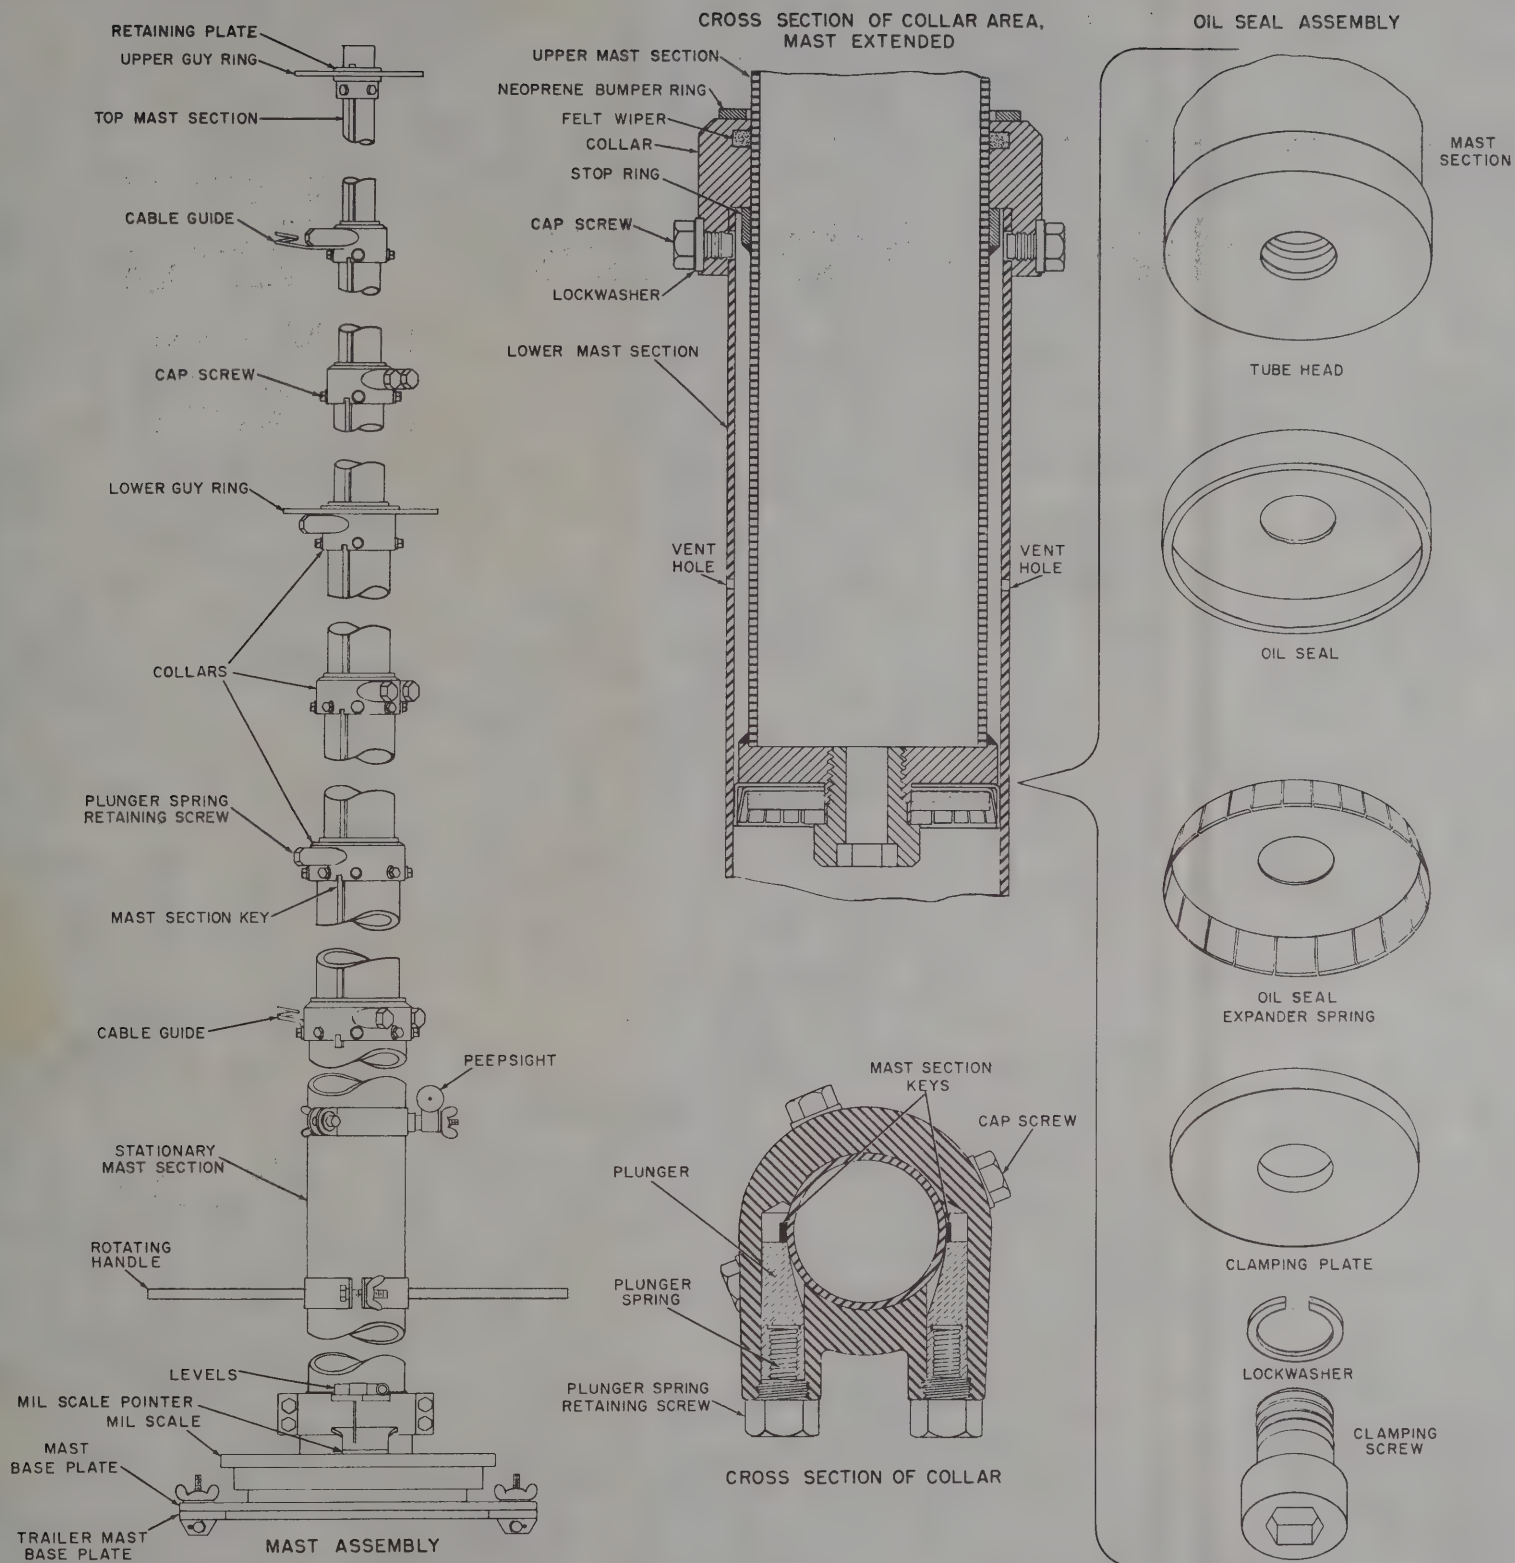
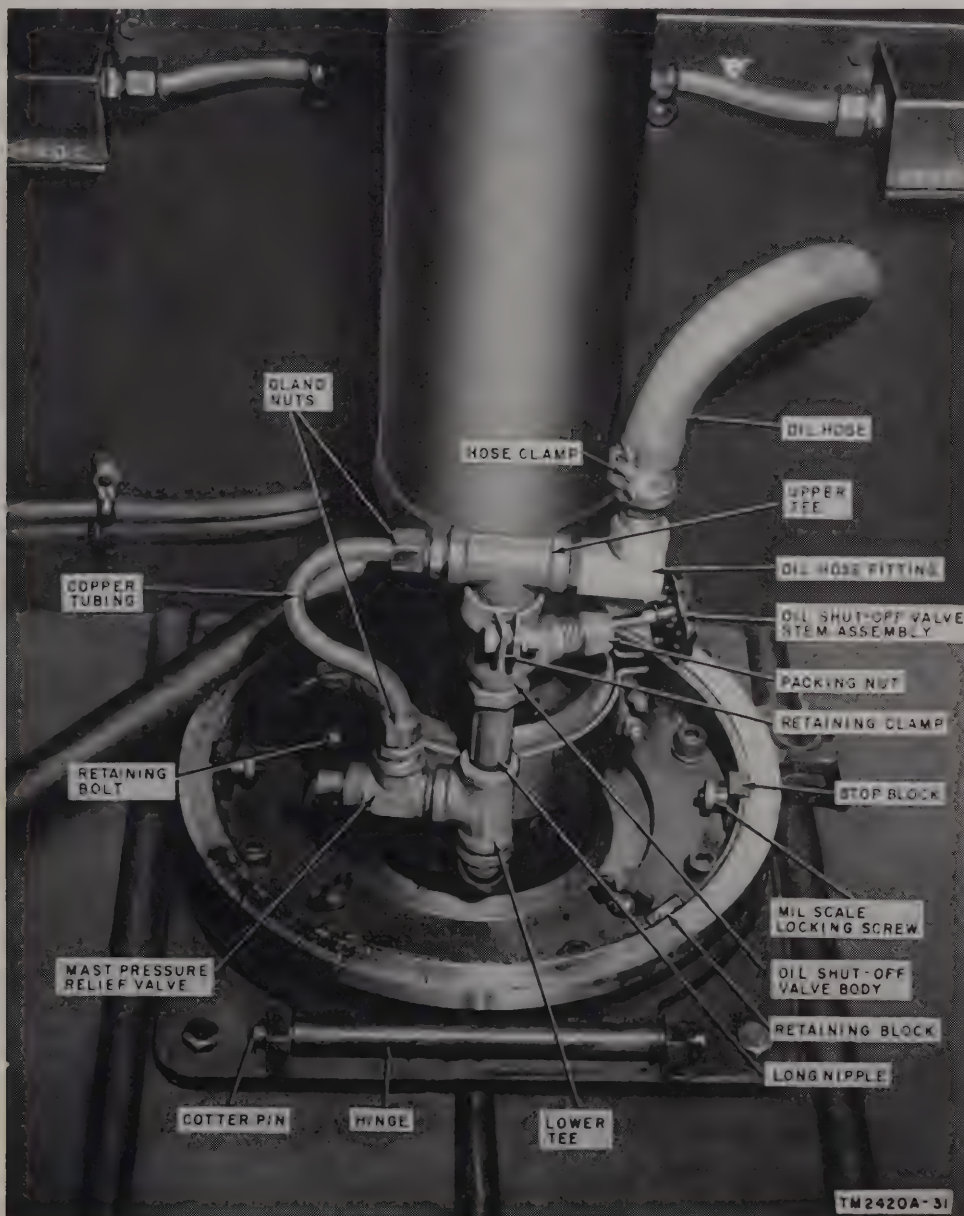

Figure 20. Mast AB-329A/G, sectional view.
Figure 22. Mast base, mast pressure relief valve, and oil shutoff valve (blue).
49. Disassembly and Reassembly of Mast for Organizational Maintenance (fig. 20)
b. Lower the mast to the A-frame (par. 32*c* (3)), and check to see that the trailer wheel brakes are set.
- (1) Remove the wingnut and take the peep-sight off the stationary section of the mast (fig. 20).
- (2) Remove the wingnut and take the rotating handle off the stationary section of the mast.
- (3) Remove the four retaining bolts (fig. 22) and take the mil scale pointer off the stationary section of the mast.
- (1) Remove the screws from the four retaining blocks (fig. 22) and remove the retaining blocks.
- (2) Remove the two mil scale locking screws.
- (3) Remove the two stop blocks.
- (4) Lift the mil scale from the mast base.
a. *Hose Clamps* (fig. 22). Before tightening the hose clamp to stop a connection from leaking, be sure the hose is not cracked or broken. If the hose is in good condition, tighten the hose clamp with a screwdriver. Do not tighten the hose clamp more than is necessary to stop the leak.
a. Oil Shutoff Valve (Blue) (fig. 22).
- (1) Disconnect the oil hose.
- (2) Unscrew the oil hose fitting from the upper tee.
- (3) Remove the retaining clamp from the oil shutoff valve body.
- (4) Unscrew the gland nuts from the upper tee and the mast pressure relief valve and remove the copper tubing.
- (5) Loosen the packing nut and unscrew the oil shutoff valve stem assembly from the oil shutoff valve body.
- (6) Turn the connection in the base of the mast so the assembly is approximately 45° from vertical.
- (7) Unscrew the upper tee and the oil shutoff valve from the long nipple.
- (8) Unscrew the upper tee and the close nipple from the oil shutoff valve.
- (9) Discard the defective oil shutoff valve.
- (10) Install a new oil shutoff valve by reversing the procedures in (1) through (8) above. Be sure that all connections are tightened securely.
- (11) Paint the new valve the same color as the valve that was removed.
- b. *Mast Pressure Relief Valve* (fig. 22).
- (1) Unscrew the two gland nuts and remove the copper tubing.